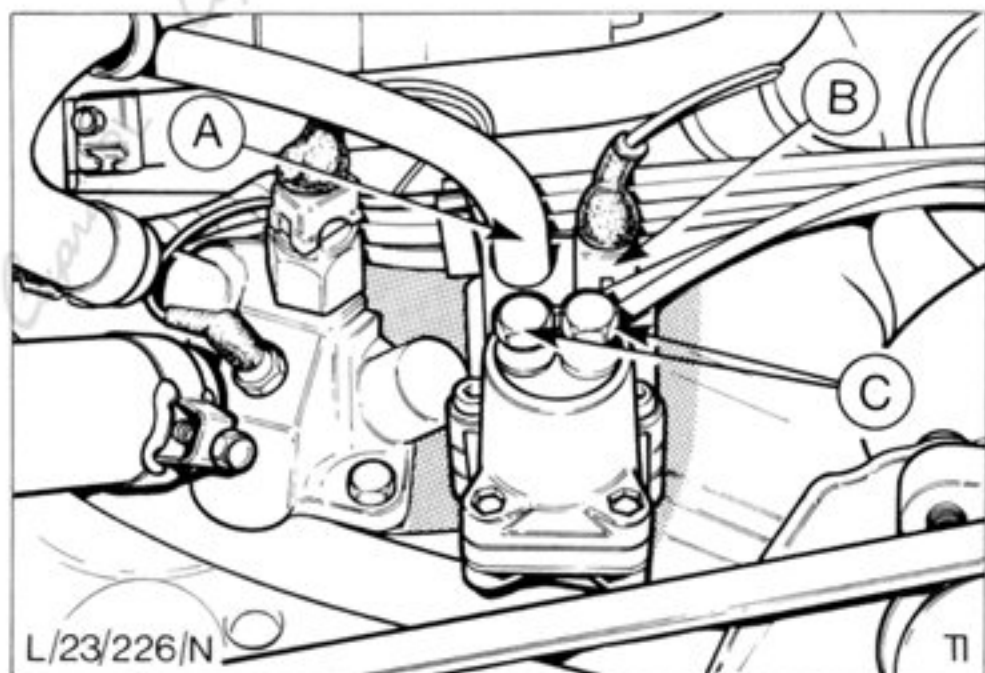

Fig.84. Warm-up regulator.
3. Disconnect electric plug and vacuum hose, Fig.84.